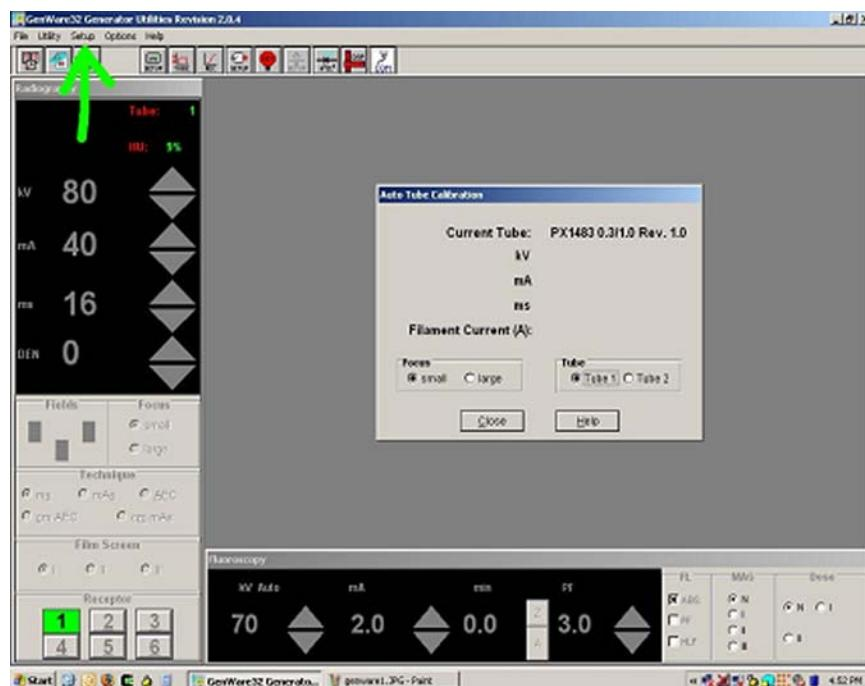

Figure 8-17
8. Select Auto Tube Calibration from the Setup menu. (Figure 8-17)
9. Choose “Tube 1” and “Focus: Small”. (Figure 8-17)